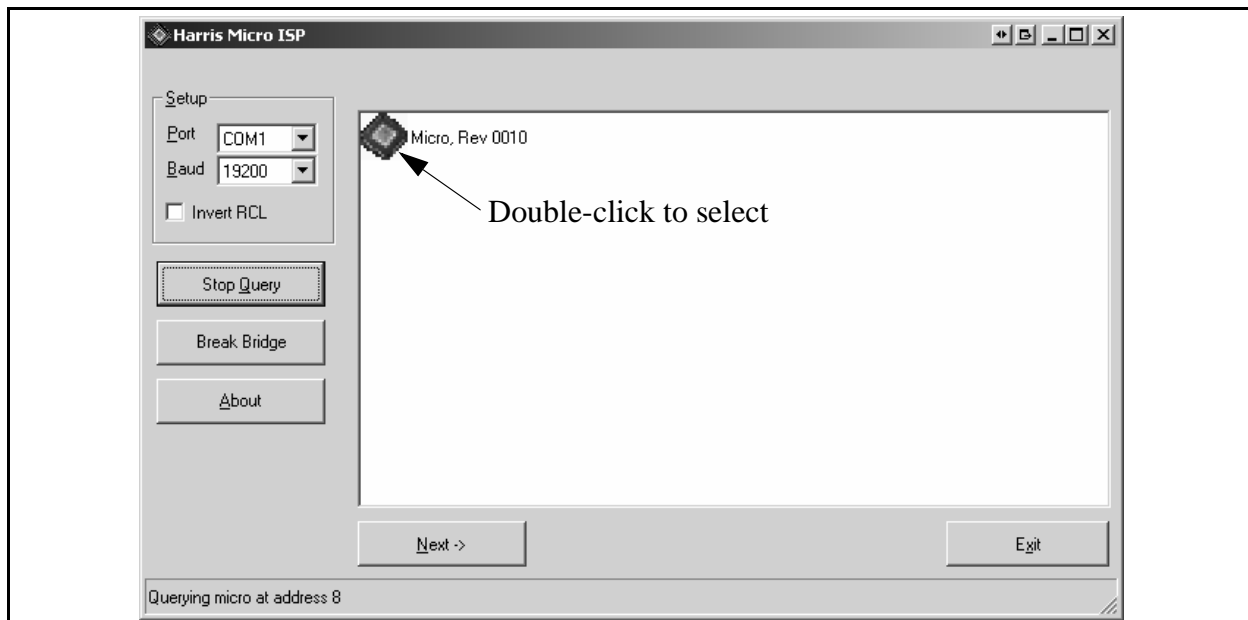
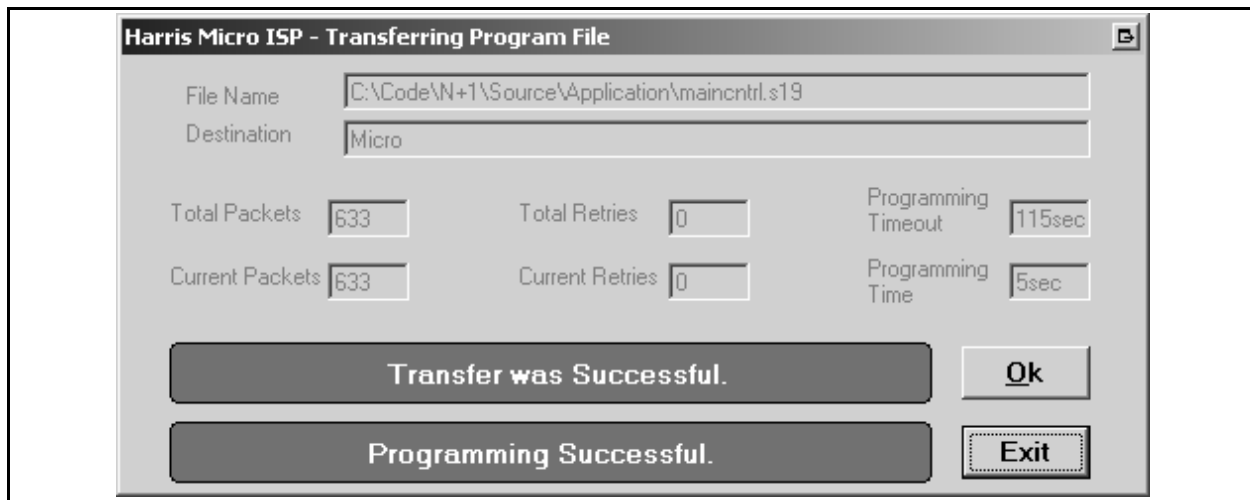

Figure 1-3 Response to “Query Micros”
Figure 1-8 Programming Successful
- STEP 6** Press Query Micros; wait for system to recognize the controller board as shown in Figure 1-3. If it does not find the micros, press Stop Query, change the COM port and press Query Micros again.
STEP 12 The final screen is shown in Figure 1-8 which shows “Programming Successful”. Press OK to finish the update and get back to the main screen shown in Figure 1-3.